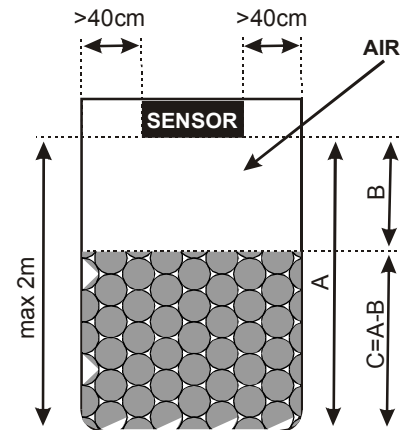

Figure 2
Consult Figure2 for the correct sensor position. Sensor must be put inside the tank as far as it can be from the lateral tank walls. Fix the sensor to the right position in order to be parallel to the liquid surface by using two 3mm screws with nuts. The space between sensor and liquid surface must not be occupied for any reason. The sensor cable must be fixed to the final position by using appropriate hardware. Avoid overhelm of the cable. Avoid also placing the sensor cable near other high voltage cables.
- To modify these parameters press momentarily the key «▲» or «▼». The yellow indicator lights on. This means that the device has been switched to setup state. The display shows for a while the message «**AbS**» or «**diF**». This is the name of the first parameter which affects the measurement. By pressing the «▲» and «▼» keys choose the appropriate measurement way for your application. The option «**AbS**» (absolute) means that the device measures and controls the absolute distance between sensor and surface (B in Figure2). The option «**diF**» (differential) means that the real level of the liquid is measured and controlled (C in Figure2).
- To step forward through the next parameters simply leave the device without pressing any key. The device memorizes the first parameter and goes to the next. The message «**rnG**» is shown in the display. This parameter is called «Range». It has the meaning of the total tank height and it can be adjusted from 10cm up to 200cm. It is the A in Figure 2. This parameter is useful to the device only when it performs differential